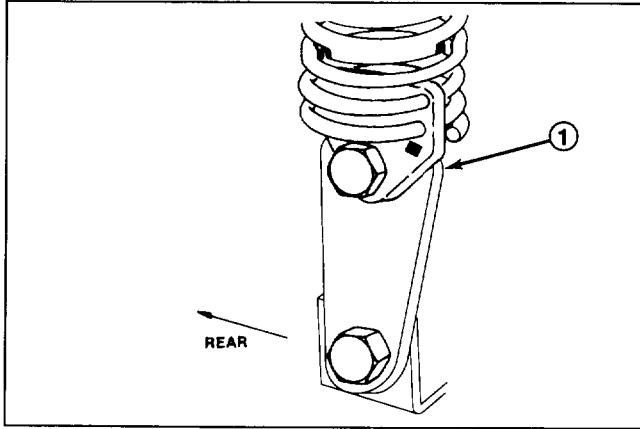

Figure 8
5. Mount bottom of knee link to deck bracket with a shoulder bolt and locknut (Fig. 8, 9).